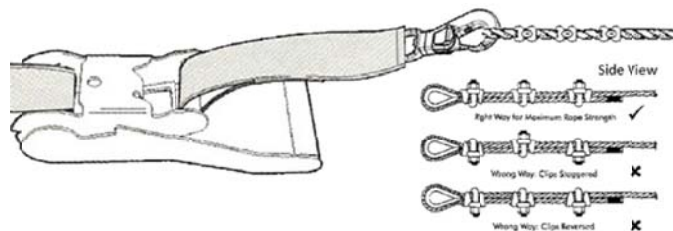

Figure 2.
7. Insert cable through snap hook on ratchet and pull cable as tight as possible. Secure cable to hook using the 3 cable clamps provided. A second person may be helpful to help pull cable while the other secures it. (fig. 2)